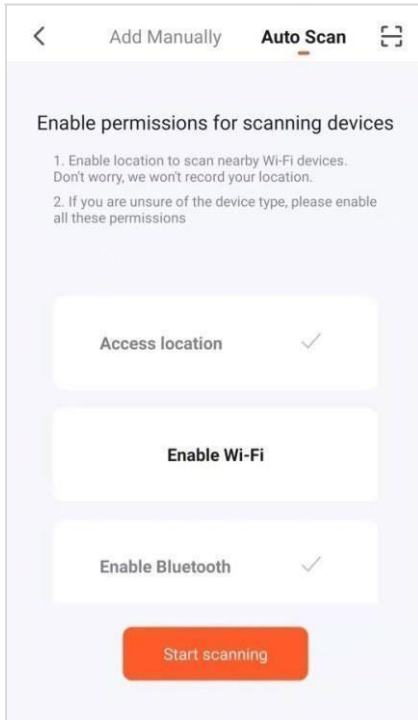

Fig.10.5
1.5 If the APP cannot find any appliance. Click **Auto scan** (Fig10.5) change to auto scan page.